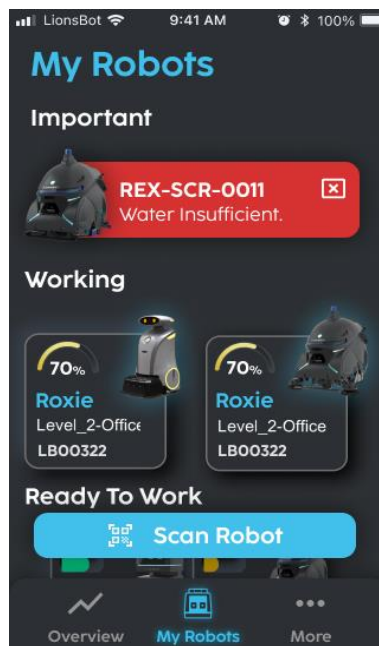

FIGURE 7-11 (My Robot's Page)
1. Click on 'Scan Robot' on the My Robots Page (Fig. 7-11).